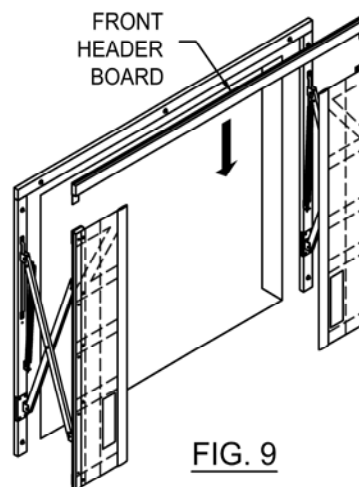

FIG. 9
* Connect front header cross-member to left and right verticals by sliding tongues at each end of front header cross-member into slots at top end of verticals (fig. 9).